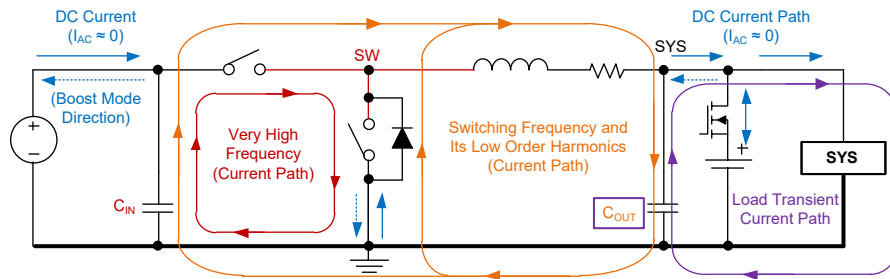

Figure 21. The Paths and Loops Carrying High Frequency, DC Currents and Very High Frequency (for Layout Design Consideration)
The switching node (SW) creates very high frequency noises, which are several times higher than  $f_{sw}$  (1.5MHz) due to sharp rise and fall of the voltage and current in the switches. To reduce the ringing issues and noise generation, it is important to design a proper layout for minimizing the current path impedance and loop area. A graphical guideline for the current loops and their frequency content is provided in Figure 21. The following considerations can help to make a better layout.